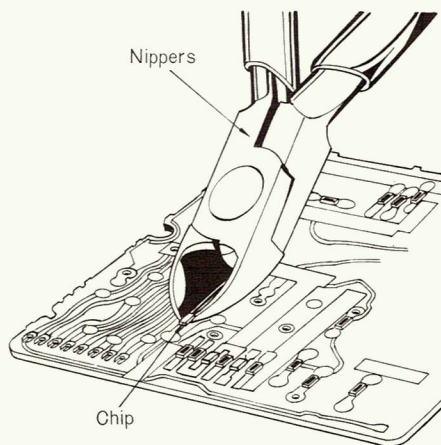

Fig. 29
2. Remove chip by nippers, as shown in fig. 29.